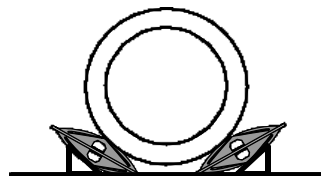

Figure 2-15. Using Two Lift Bags to Lift Cylindrical Objects
h. When lifting large cylindrical objects (Figure 2-15), use a lift bag on both sides of the cylinder and wedges to provide an even lift.